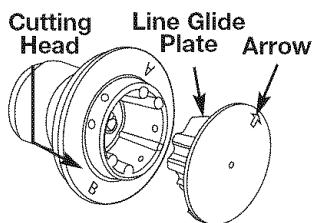

Fig. 11
3. Reinstall line glide plate (Fig. 11). Align arrow with: